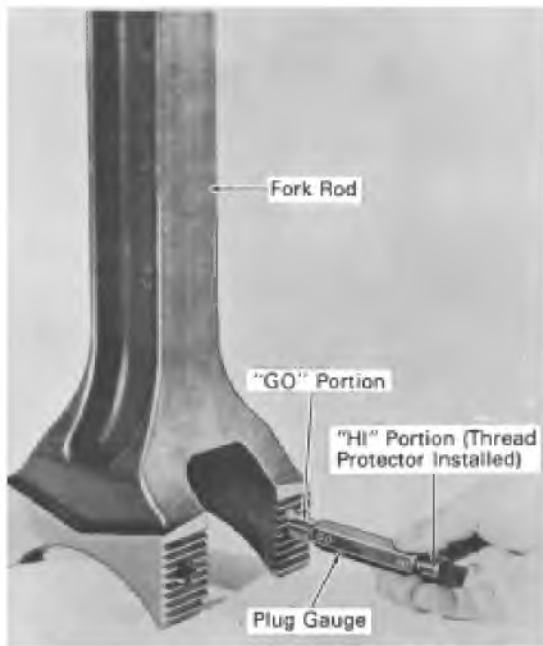

Fig.3-13 - Checking Fork Rod Bolt Threads
Plug gauge, Fig. 3-13, is available to check the fork rod bolt threads. One end of the gauge is marked "GO" and the opposite end "HI". The gauge should be used according to the following procedure.
- a. Thread the "GO" portion of the gauge into each of the holes, Fig. 3-13, and check for binding, which may indicate damaged threads. Normally, this gauge should enter the holes freely and a slight shake or wobble is permissible.